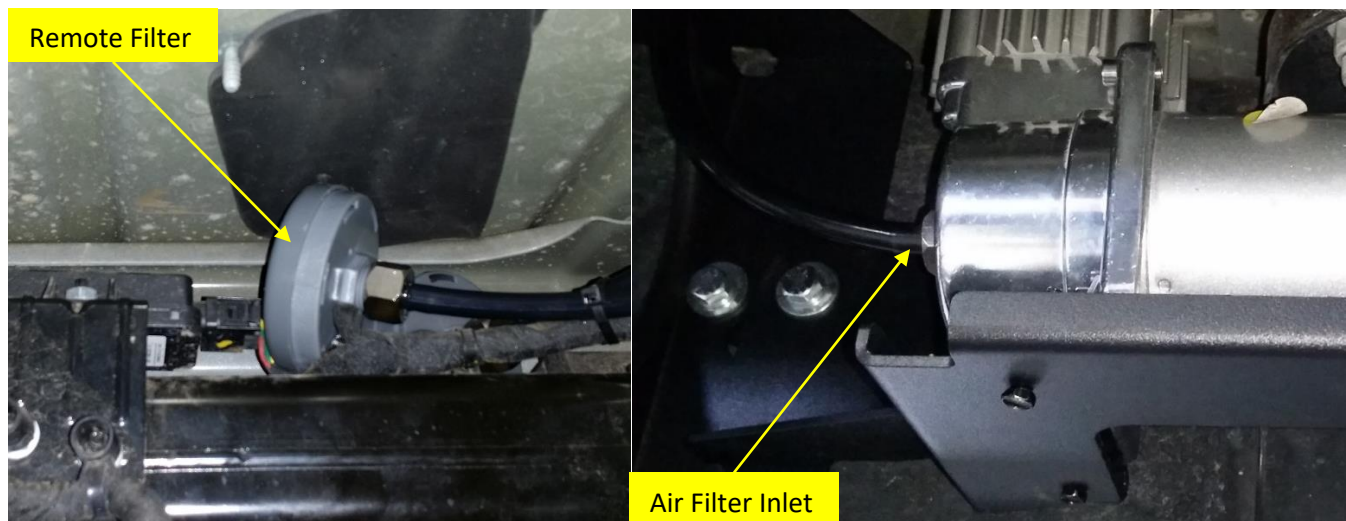

Figure 22 - Air Compressor Filter Remote Tubing shown attached
10.5.4. Install Air Compressor filter to Compressor, or if preferred to mount filter remotely, attach threaded barb to front of Compressor, as shown in Figure 22 below.